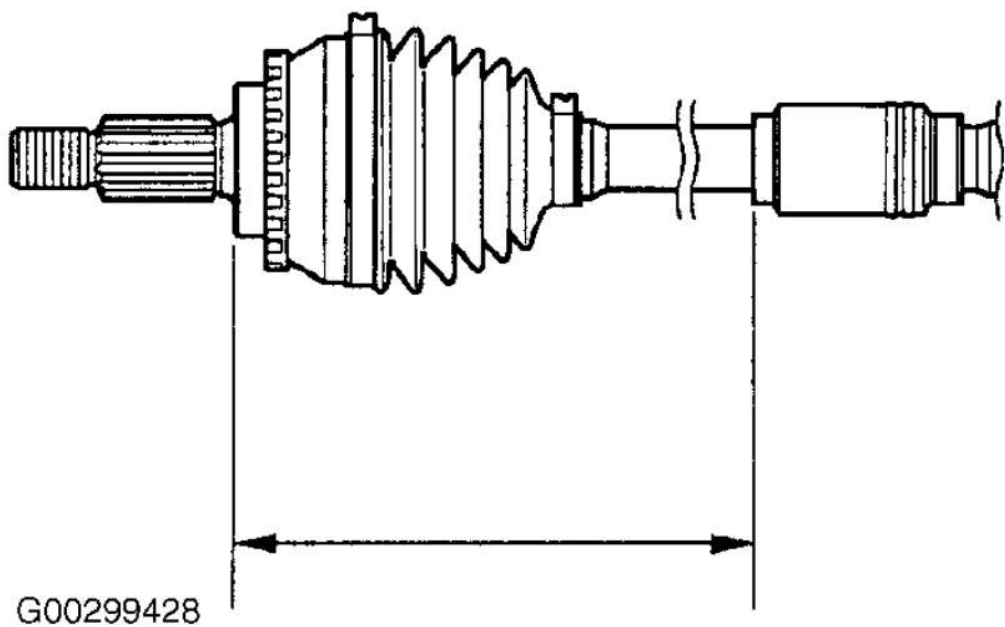

Fig. 8: Measuring Front Axle Shaft Damper Distance
13. Position dynamic damper on outboard end of left axle shaft. Dynamic damper should be positioned at distance of 6.14-6.30 in. (155.9-159.9 mm). Tighten dynamic damper clamps. See **Fig. 8** .